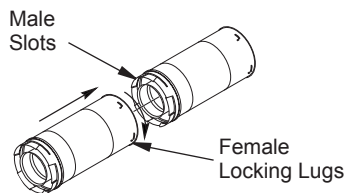

Figure 8 - Vent Pipe Connections
Twist-Lock Procedure: The female ends of the pipes have locking lugs (indentations). These lugs will slide straight into matching slots on the male ends of adjacent pipes. Push pipe sections together and twist one section clockwise approximately one-quarter turn until the sections are fully locked (see Figure 8). **Note:** Horizontal runs of vent must be supported every three feet. Use wall straps for this purpose.
2. Assemble the desired lengths of pipe and elbows necessary to reach from the fireplace flue up through the firestop. Be sure all pipe and elbow connections are fully twist-locked (see Figure 8, page 9).